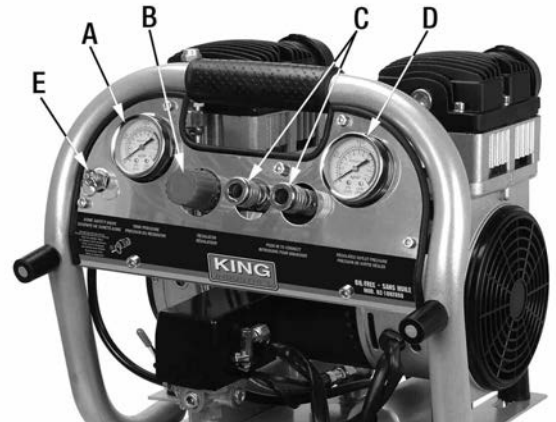
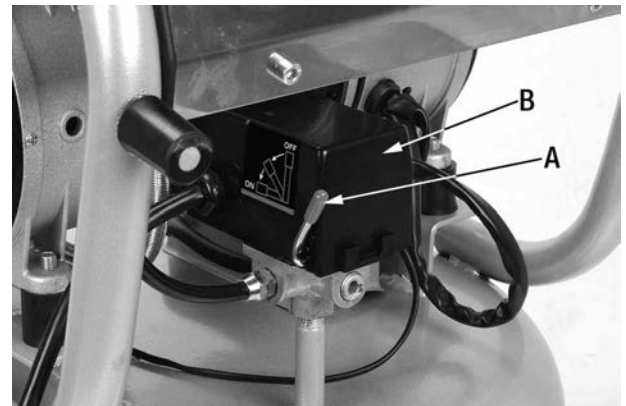

FIGURE 7
FIGURE 8
TANK PRESSURE GAUGE (A) FIG.7. The tank pressure gauge indicates the reserve air pressure in the tank.
REGULATOR (B) FIG.7. The air pressure coming from the air tank is controlled by the regulator. Turn the regulator knob clockwise to increase pressure or counterclockwise to decrease pressure.
DUAL “ONE TOUCH” 1/4” QUICK RELEASE COUPLERS (C) FIG.7. Connect an air hose with a 1/4” male coupler installed and connect it to one of the two female quick release couplers.
OUTLET PRESSURE GAUGE (D) FIG.7. The outlet pressure gauge indicates the air pressure available at the outlet side of the regulator. The pressure is controlled by the regulator and is always less than or equal to the tank pressure.
ASME SAFETY VALVE (E) FIG.7. If the pressure switch does not shut off the air compressor at its cutout pressure setting, the safety valve will protect against high pressure by “popping out” at its factory set pressure (slightly higher than the pressure switch cut-out setting).
ON/AUTO-OFF SWITCH (A) FIG.8. Turn this switch ON to provide power to the automatic pressure switch and OFF to remove power at the end of each use.
PRESSURE SWITCH (B) FIG.8. The pressure switch automatically starts the motor when the tank pressure drops below the factory set “Cut-In” pressure. It also stops the motor when the air tank pressure reaches the factory set “Cut-Out” pressure.
1. Before attaching an air hose or accessories, make sure the On/Off switch (A) Fig.8 is set to “OFF” and the air regulator (B) Fig.7 is closed (completely turned counterclockwise).
2. Turn the switch (A) Fig.8 to the On position and allow tank pressure to build. Motor will stop when tank pressure reaches “cut-out” pressure.
3. Open the regulator (B) Fig.7 by turning it clockwise. Adjust the regulator to the correct pressure setting. The compressor is ready for use.
1. Set the switch (A) Fig.8 to the Off position. Disconnect power cord from power source.
2. Turn the regulator (B) Fig.7 counterclockwise to set the outlet pressure to zero.
4. Pull ring on safety valve (E) Fig.7, allowing air to bleed from the tank until tank pressure is approximately 20 PSI. Release safety valve ring.
NOTE: If drain valve is plugged, pull ring on safety valve (E) Fig.7, and hold until all air pressure has been released. The drain valve can then be removed, cleaned, and reinstalled.